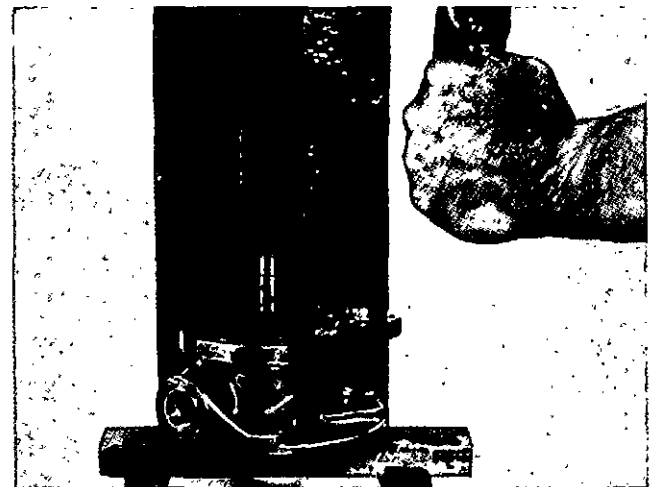
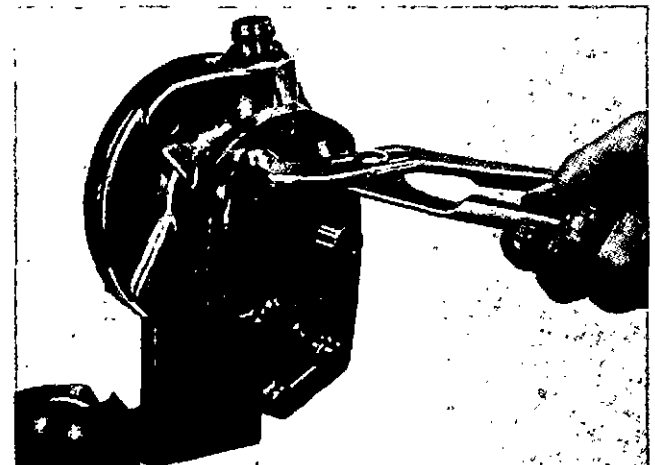

Fig. 3-12, (F5277). Press the drive shaft assembly into the cover.
Fig. 3-13, (F544). Install the retaining ring in the groove.
6. Lubricate the ST-419 Assembly Tool and install the tool over the main shaft. Put the retaining ring between the drive gear and the bearing. Carefully install the main shaft assembly into the front cover with an arbor press, Fig. 3-12. Do not move the oil seals, if they have been installed. Push the assembly until the bearing touches the bottom of the cover hole. Install the retaining ring in the groove of the cover, Fig. 3-13. Look through the holes in the gear to make sure the retaining ring is in the groove.